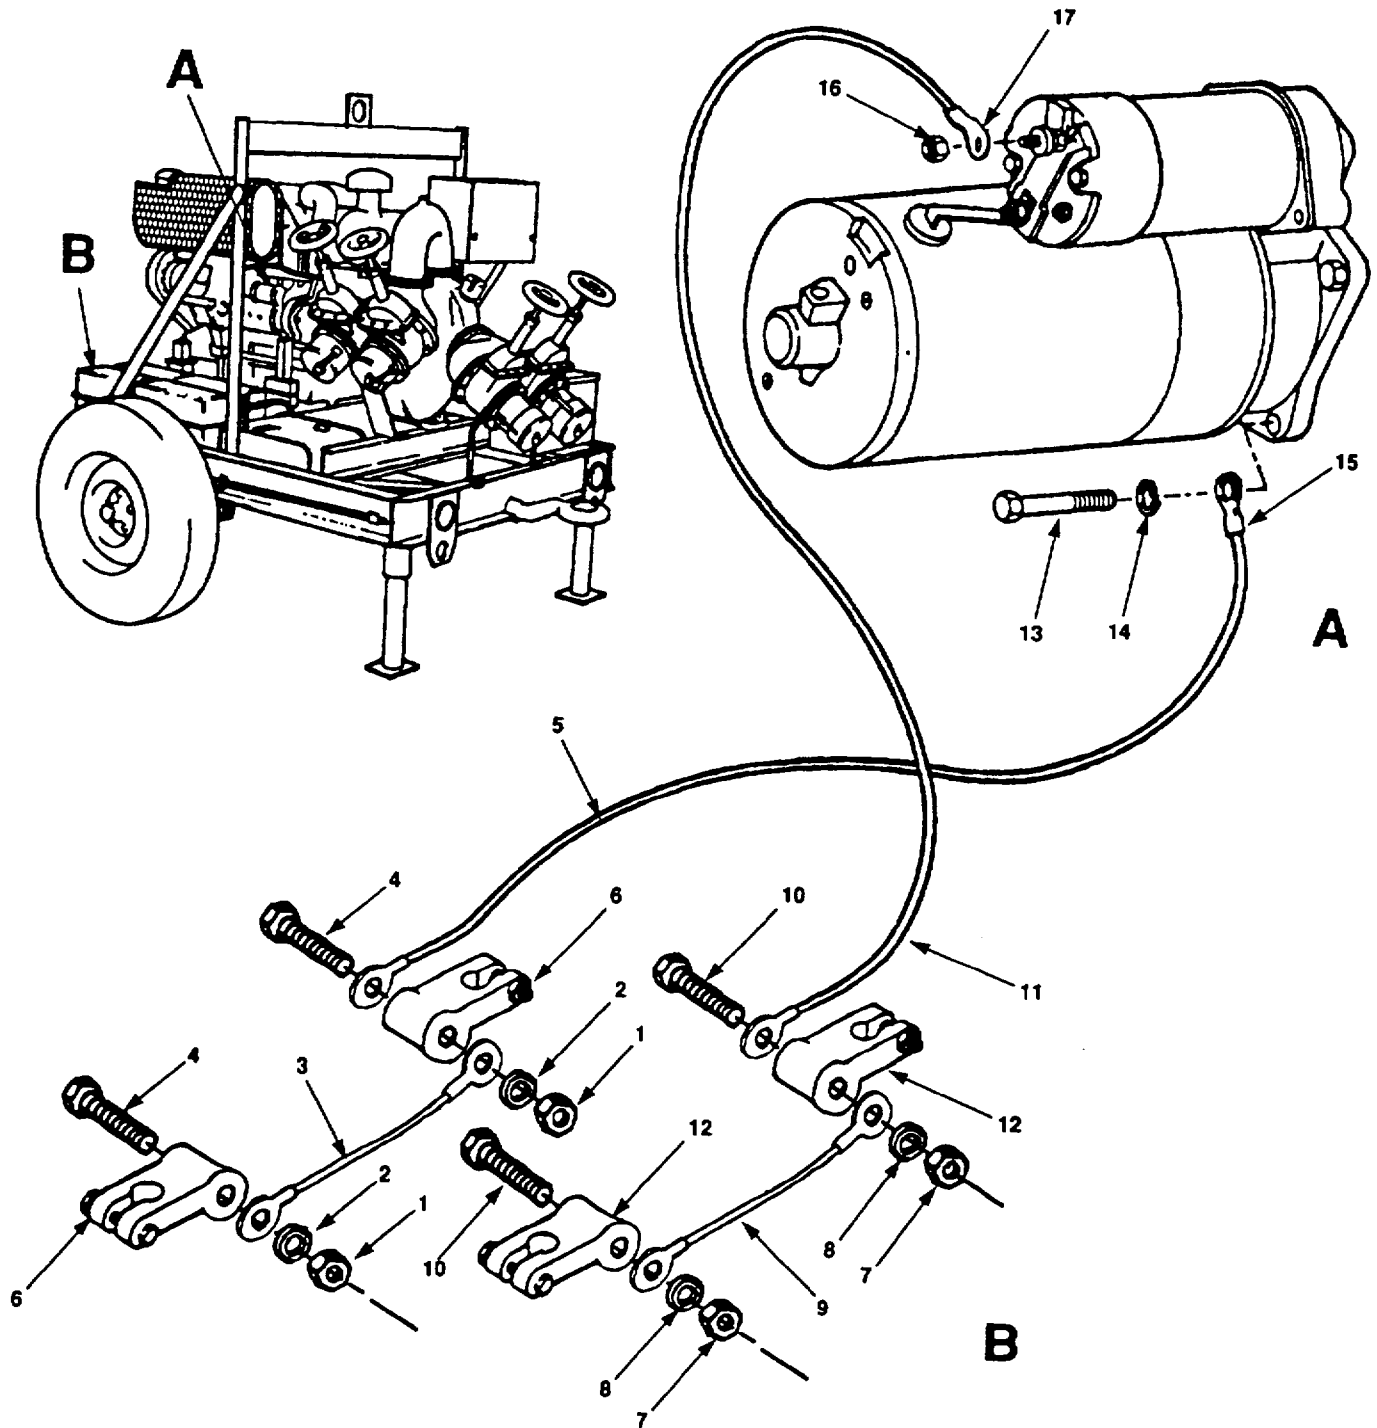

Figure 4-38. Battery Cable Maintenance.
- a. Remove two nuts (figure 4-38, 1) washers (2), one wire (3), two bolts (4) and one wire (5) from two terminals (6).
- b. Remove two nuts (7), washers (8), one wire (9), two bolts (10), and one wire (11) from two terminals (12).
- c. Remove bolt (13), lockwasher (14), and terminal lug (15) from starter.
- d. Remove nut (16) and terminal lug (17) from starter solenoid.